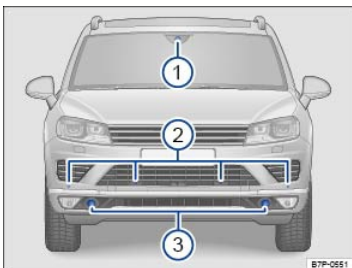

Fig. 146 Vehicle front view: Sensors and camera
**Key to ⇒ Fig. 146 :**
- ① Camera for Front Assist system
- ② Ultrasonic sensors for the Adaptive Cruise Control (ACC)
- ③ Radar sensors for the Adaptive Cruise Control (ACC) and Front Assist
There are 2 radar sensors next to the fog lights on the vehicle front ⇒ Fig. 146③. These can detect moving vehicles up to 590 ft (180 m) in front of your vehicle.
The areas of the sensors ⇒ Fig. 146②③ and the camera ⇒ Fig. 146① must not be spray painted or covered by stickers or other objects, since this can lead to a malfunction of the Adaptive Cruise Control (ACC) and the Front Assist system.